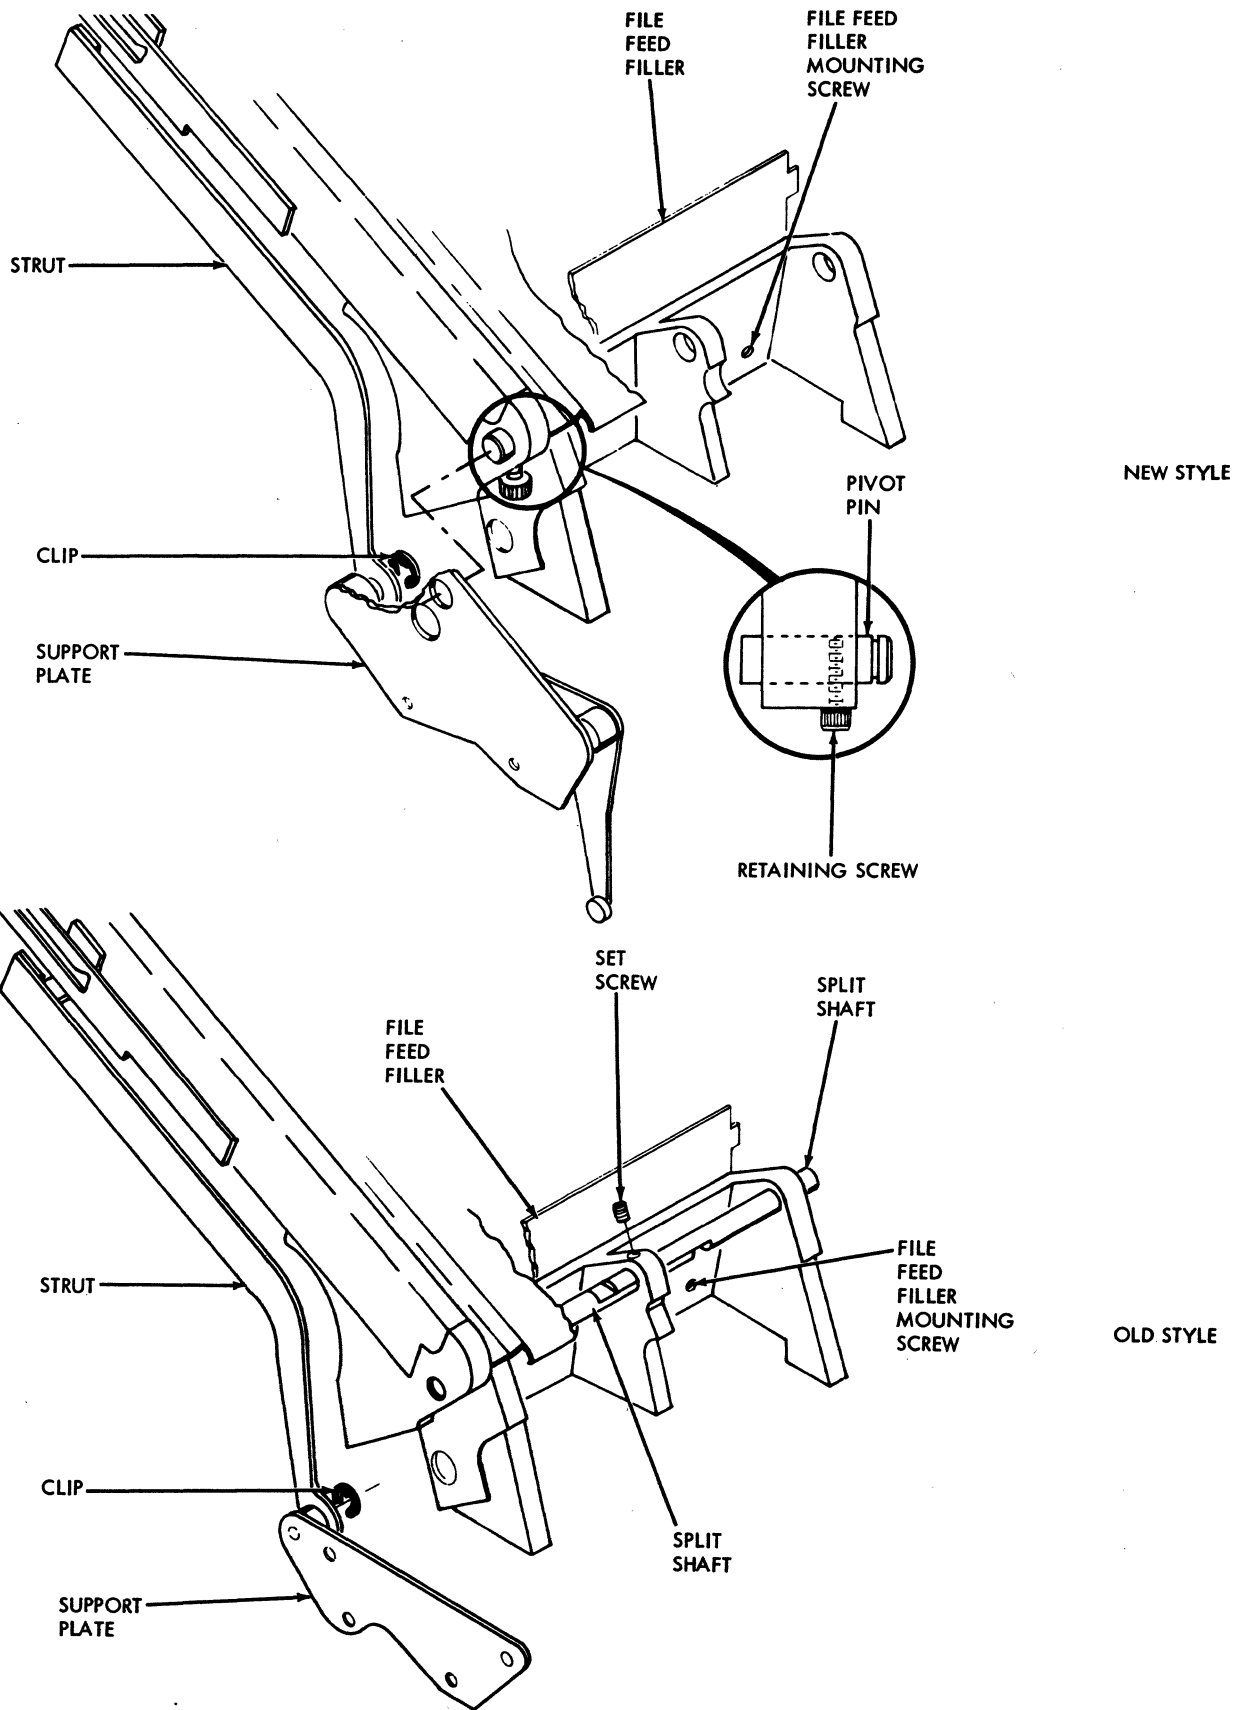

Figure 1-1. File Feed Tray Mounting
- b. Loosen screw at bottom of each flat spring and lift out file feed filler. See Figure 1-1.